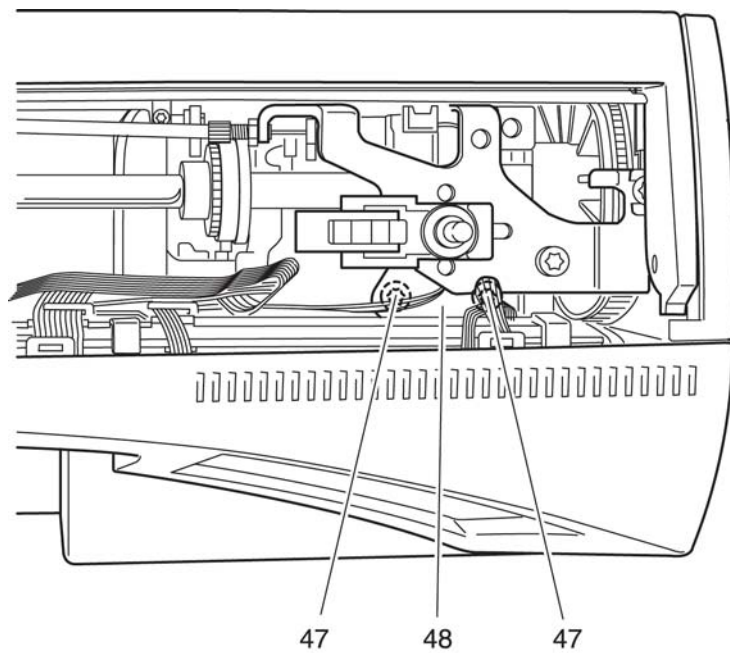

Fig. 11b
- Loosen both screws 47 slightly (fig. 11b).